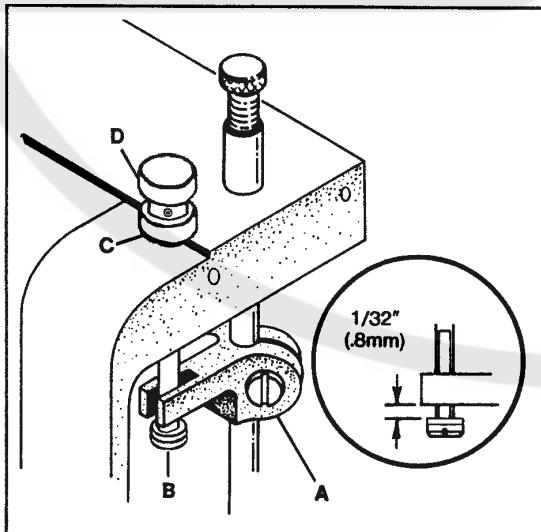

FIG. 37
When sewing on extremely lightweight material and/or feed cutting is a problem, the presser foot may be "hung" by raising stud (B) until guide (A) rests on the shoulder of stud (B). This adjustment will raise the presser foot slightly, so only the pressure of the presser foot shoes contact the material. Turn handwheel in operating direction until the feed dogs are below the throat plate surface. At this time there should be a $1/32"$ (0.8mm) clearance between the bottom of presser bar guide (A, Fig. 37) and presser bar guide stud (B). To hang the presser foot loosen lock nut (C Fig. 37) and turn thumb screw (D Fig. 37) so that foot comes up slightly, tighten screw (C Fig. 37).